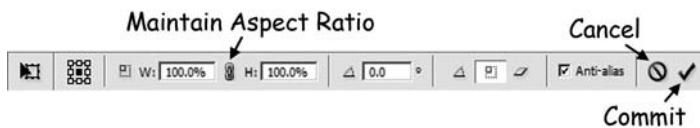

Figure 7. Scaling toolbar
6. Add labels using the Type Tool in the tool bar. Click on the Type Tool and notice that various options appear at the top of the image. Use black or white font color and Arial font in an appropriate size, 12 or 14 pt. for a 300 dpi document size is suitable. Select the desired spot to label on the image, click and start typing. Notice the two icons that appear at the top right. The circle/slash is the “cancel” icon and the checkmark is the “commit” icon (see Figure 7). If you change your mind about where you want to place the type, click on the “cancel” icon; once you are satisfied with the label you have typed (its size, color, placement, etc.), you must click on the “commit” icon before you can move on. If you want to change the location of the text after you have committed, select it with the Move Tool and drag. Alternately, select the layer that contains that text, delete it (right click, delete) and start again.
and paste images into the blank document, after you have flattened the image, Select > All, Edit > Copy. Switch to the blank document, Edit > Paste. Once you have pasted the image into the new document, do NOT change the size of the image by simply dragging the handles (the image will get distorted; if you accidentally do this, click the “cancel” icon and the image will return to its original size). If you want to change the size, follow the instructions for resampling in step 5, or use Image>Resize>Scale. Then click on the “Maintain aspect ratio” icon (Figure 7). Now you can resize by clicking and dragging the handles, and the image will not be distorted. Alternatively, you can hold the shift key while clicking and dragging the handles, and the aspect ratio will be maintained. Click the “commit” icon once you are satisfied with the changes you made. Note, however, that once you commit, the image is resampled, so you don’t want to resize more than necessary, or you risk significantly degrading your image.